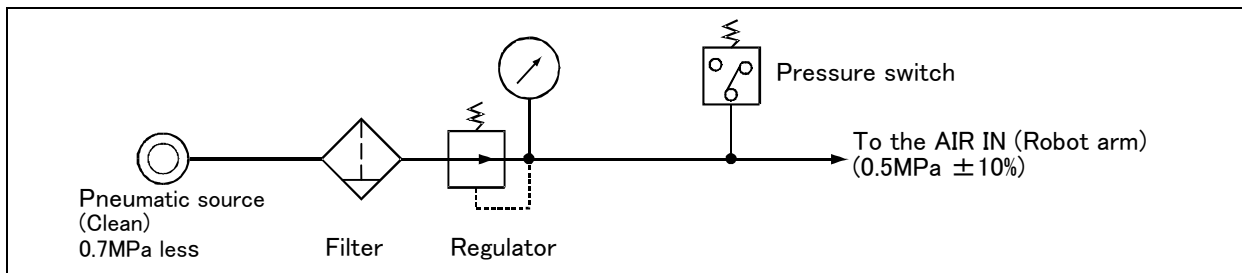

Fig.2-28 : Air supply circuit example for the hand
Fig. 2-28 shows an example of pneumatic supply circuitry for the hand.
- (1) Place diodes parallel to the solenoid coil.
- (2) When the factory pneumatic pressure drops, as a result of the hand clamp strength weakening, there can be damage to the work. To prevent it, install a pressure switch to the source of the air as shown in Fig. 2-28 and use the circuit described so that the robot stops when pressure drops. Use a hand with a spring-pressure clamp, or a mechanical lock-type hand, that can be used in cases where the pressure switch becomes damaged.
- (3) The optional hand and solenoid valve are of an oilless type. If they are used, don't use any lubricator.
- (4) Supply clean air to the vacuum generation valve when you use clean type robot.
- (5) If the air supply temperature (primary piping) used for the tool etc. is lower than ambient air temperature, the dew condensation may occur on the coupling or the hose surface.